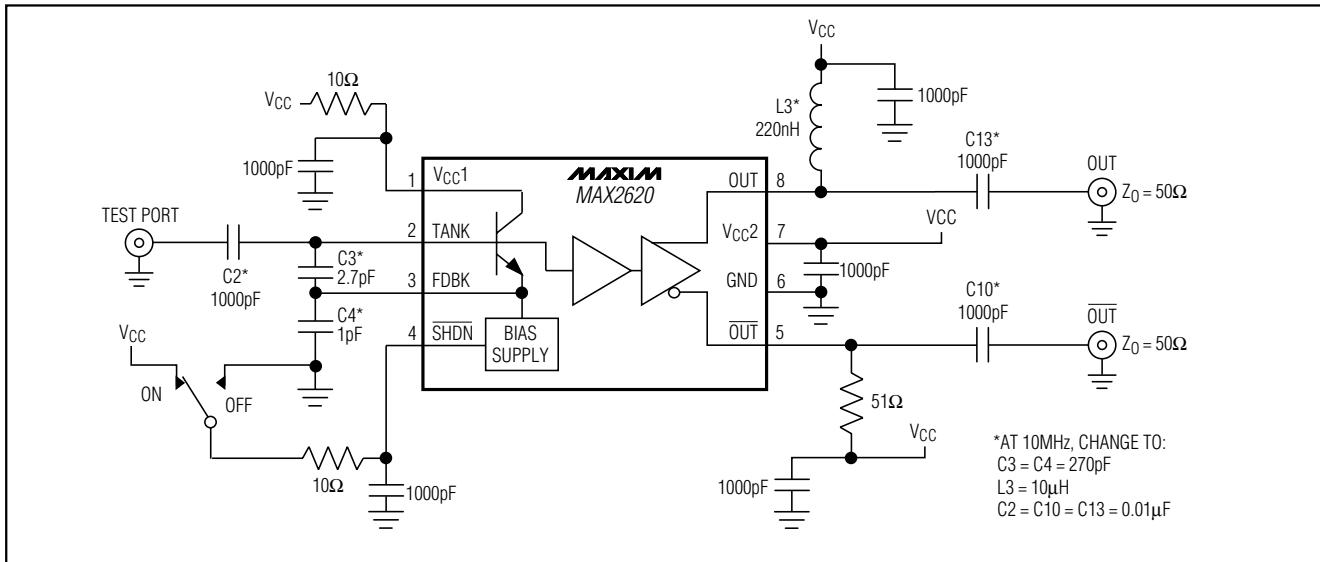
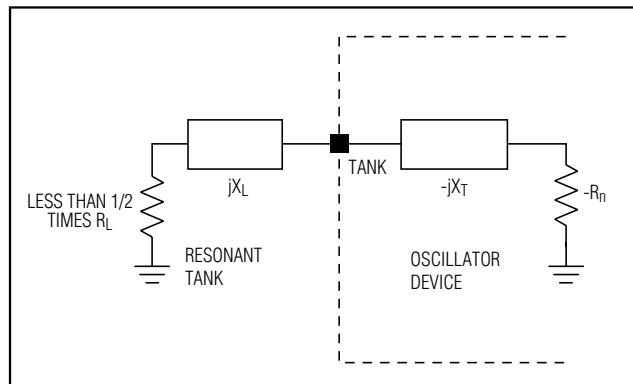

Figure 1. 900MHz Test Circuit
Figure 2. Simplified Oscillator Circuit Model
(Test Circuit of Figure 1, V_{CC} = +3.0V, SHDN = V_{CC}, Z_{LOAD} = Z_{SOURCE} = 50Ω, PIN = -20dBm (50Ω), f_{TEST} = 900MHz, T_A = +25°C, unless otherwise noted.)
(Test Circuit of Figure 1, $V_{CC} = +3.0V$, $\overline{SHDN} = V_{CC}$, $Z_{LOAD} = Z_{SOURCE} = 50\Omega$, $P_{IN} = -20\text{dBm}/50\Omega$, $f_{TEST} = 900\text{MHz}$, $T_A = +25^\circ\text{C}$, unless otherwise noted.)
*SEE FIGURE 1
At the frequency of interest, the MAX2620 portion of Figure 2 shows the one-port circuit model for the TANK pin (test port in Figure 1).
For the circuit to oscillate at a desired frequency, the resonant tank circuit connected to TANK must present an impedance that is a complement to the network (Figure 2). This resonant tank circuit must have a positive real component that is a maximum of one-half the magnitude of the negative real part of the oscillator device, as well as a reactive component that is opposite in sign to the reactive component of the oscillator device.
Both of the MAX2620's outputs (OUT and OUT) are open collectors. They need to be pulled up to the supply by external components. An easy approach to this pull-up is a resistor. A 50Ω resistor value would inherently match the output to a 50Ω system. The *Typical Operating Circuit* shows OUT configured this way. Alternatively, a choke pullup (Figure 1), yields greater output power (approximately -8dBm at 900MHz).